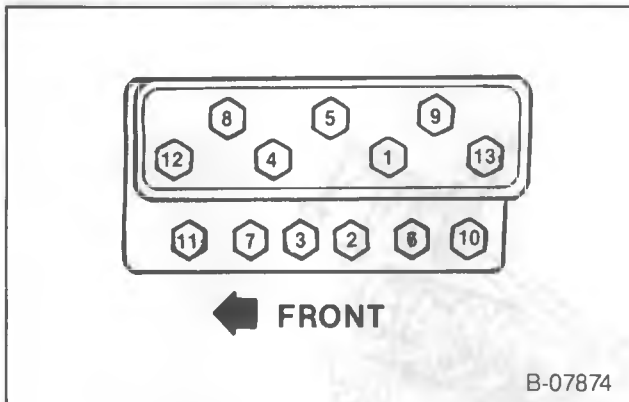

Figure 38—Cylinder Head Bolt Tightening Sequence
Install or Connect (Figure 38)
- Cylinder head bolts, a little at a time, using the sequence shown in figure 38. The proper torque is 90 N·m (65 ft. lbs.).